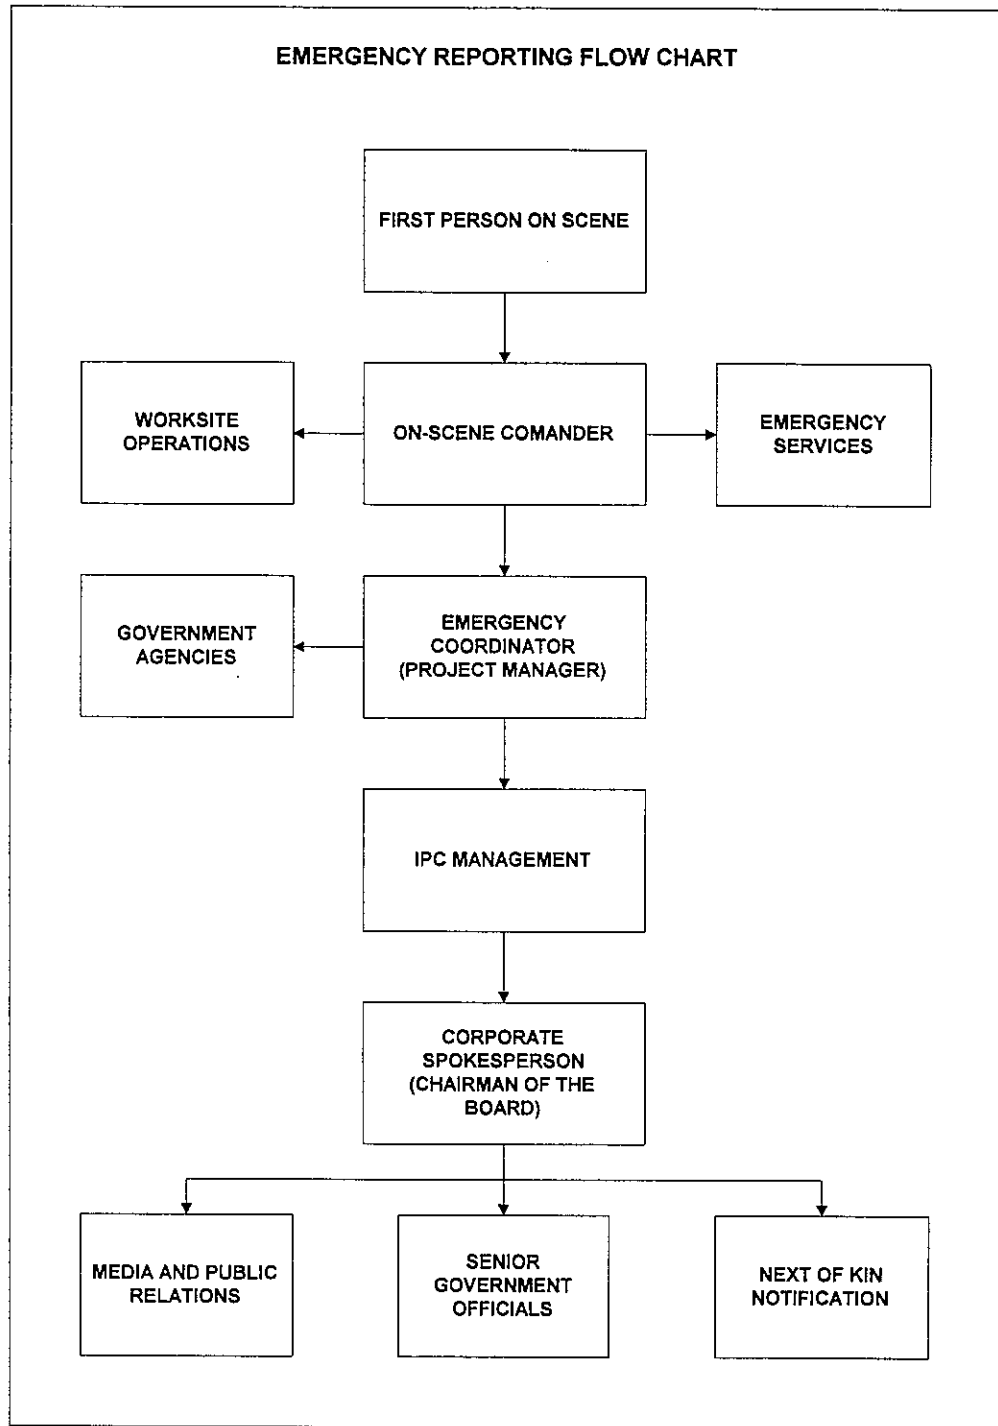

Figure 1 - Emergency Reporting Flow Chart
The urgency of reporting depends on the emergency level. The first person on the scene must report major emergencies immediately after they have occurred. All emergencies must be reported using the emergency Reporting Flow chart shown in Figure 1. Telephone numbers for IPC's office and key personnel are listed in Section 8 of the Plan.
Reference the emergency reporting flow chart (Figure 1).
- Maintain communication with management as shown on the Emergency Reporting Flow Chart (Figure 1).